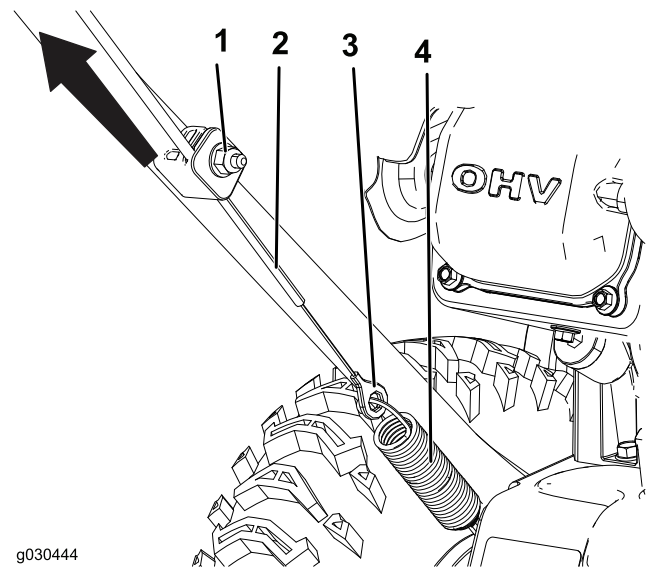

Figure 22
1. Loosen the nut on the lower cable clamp, but do not remove it (Figure 22).
2. Pull the cable up to remove some slack (Figure 22).
3. Hold the cable in place and tighten the nut (Figure 22).